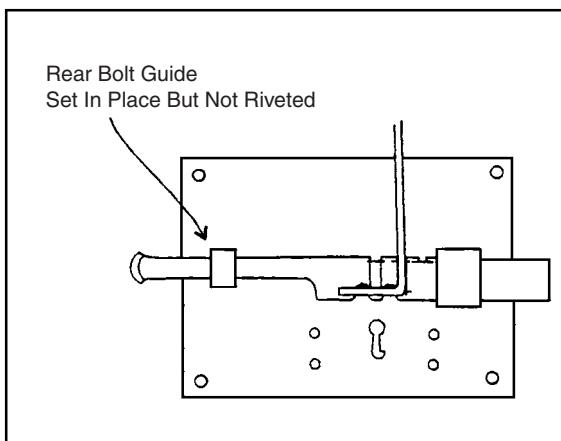

Figure 23.9 Set the tail of the spring.
18. The tail of the mainspring should be forged approximately 3 inches long, $\frac{1}{16}$ inch thick, and $\frac{1}{4}$ inch wide. Shape the tail of the spring as shown in Fig. 23.9. The bottom edge of the tail should be slightly above the bottom edge of the bolt.